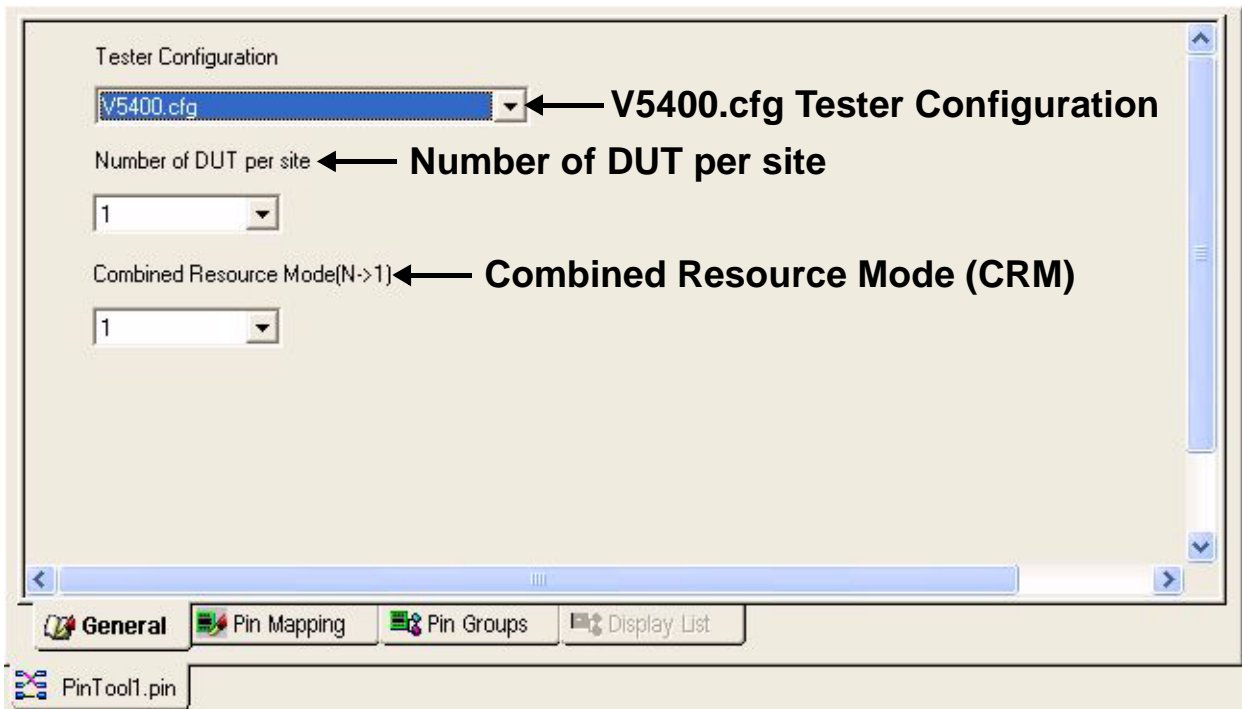

Figure 3-23. Tester Configuration Set to V5400.cfg
- 2 For this example, we will select the `V5400.cfg` configuration (Figure 3-23) that has the following configuration resources: